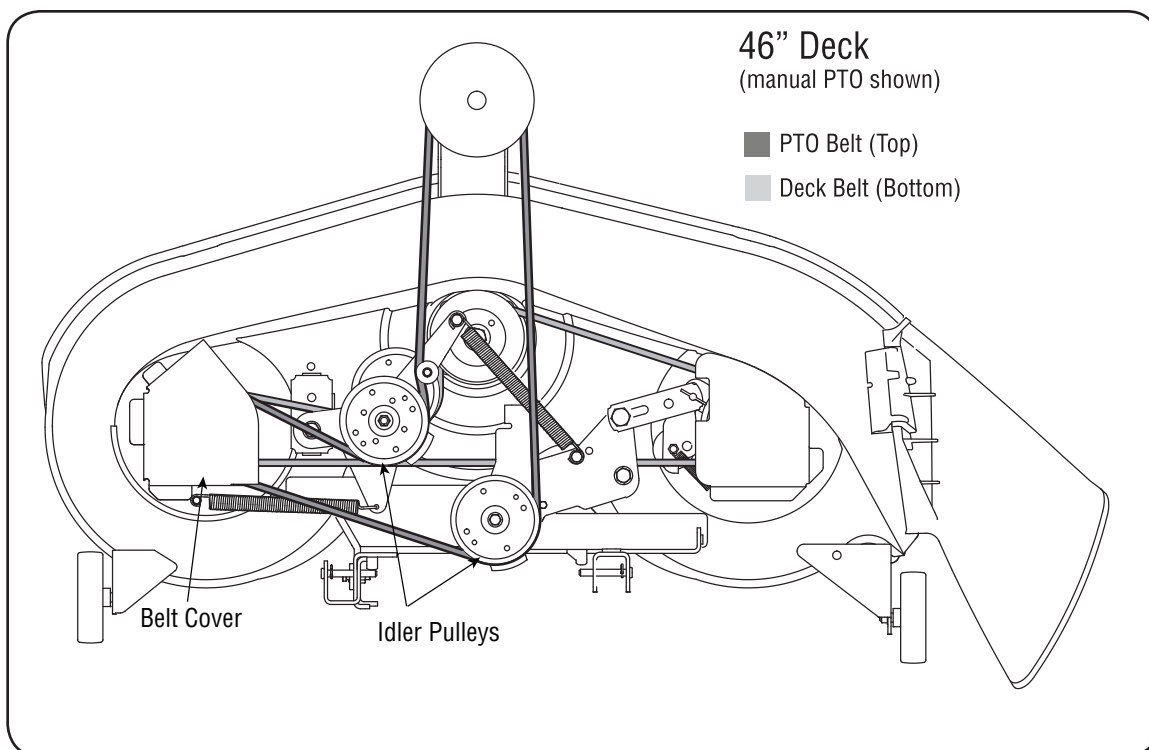

Figure 6-9
6. Route the new belt as shown in Fig. 6-9 and 6-10 and retighten the deck idler pulleys.